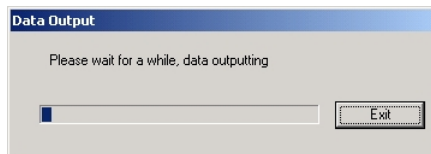

Figure 7-6 Data Outputting
1. Select <Data Output> under the <Operation> menu to start data outputting as shown in Figure 7-6. During outputting, you can click exit to cancel the operation.